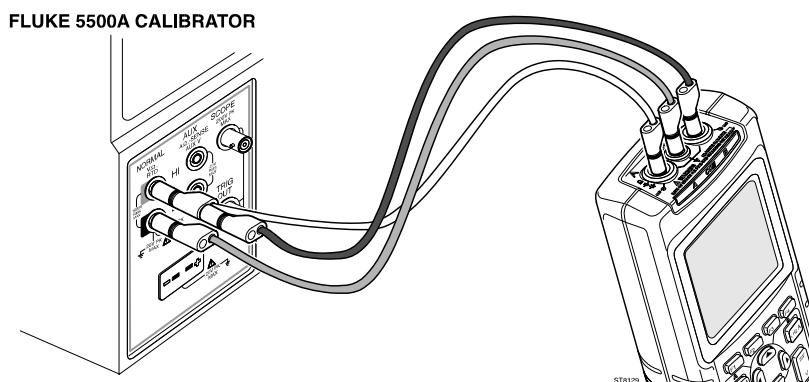

Figure 4-6. Test Tool Input 1-B to 5500A Normal Output for >300V
1. Connect the test tool to the 5500A as shown in Figure 4-6.